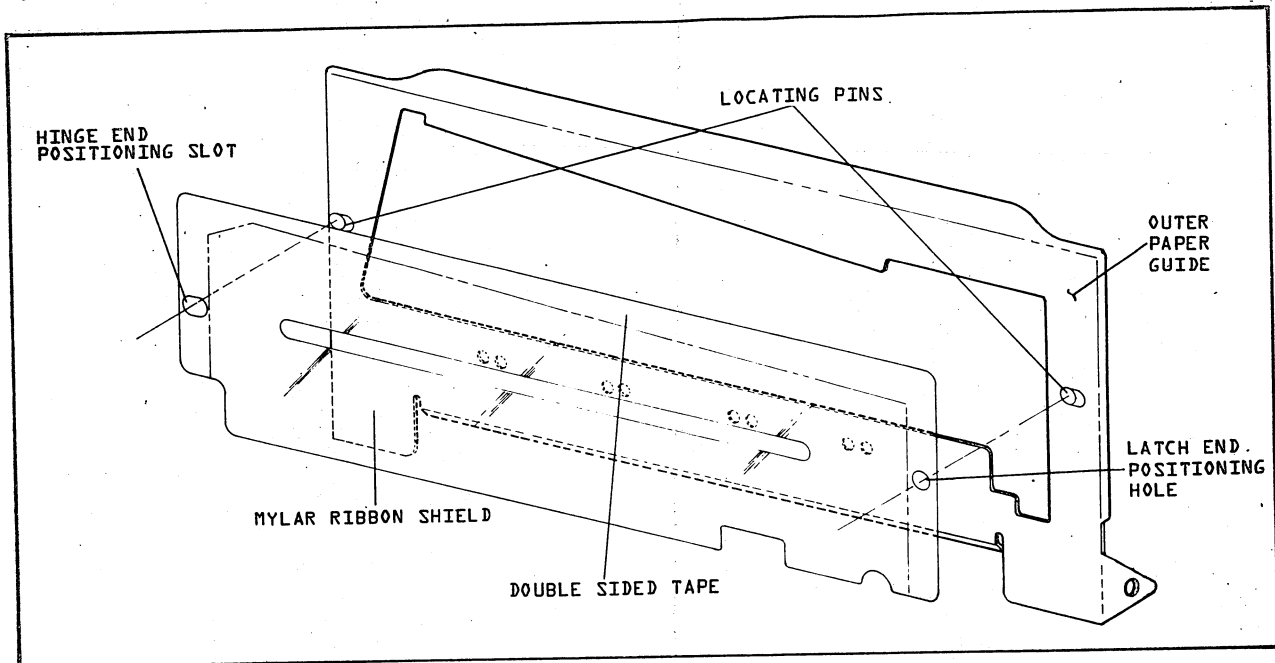

FIGURE 0-11. RIBBON MYLAR SHIELD INSTALLATION
1. Open the print gate and remove the old ribbon shield and all the old tape residue using Chloroethene-Nu, solvent or masking tape. Masking tape may be placed over old tape residue and then removed taking off the residue. Refer to Figure 0-11.